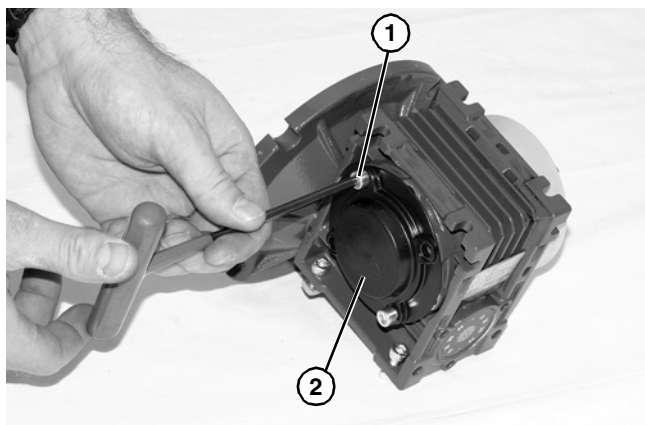

Figure 20
6. Remove two (2) screws (**Figure 20, item 1**) and detach output shaft cover (**Figure 20, item 2**).